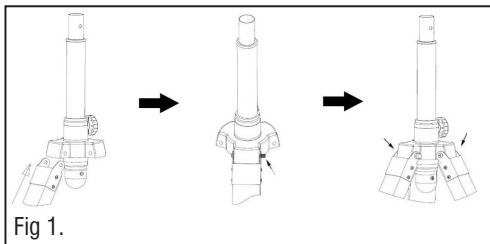
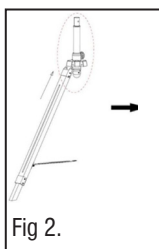

Fig 1.
Fig 2.
3.2.1.2. Attach the metal part of the wooden tripod leg to the tripod holder (Fig. 1), line up the holes and fit the securing screws all the way through (Fig 2).